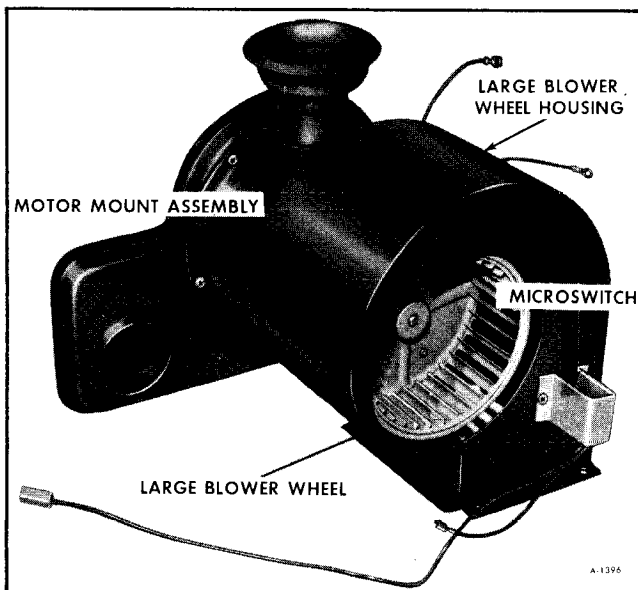

Figure 30—Blower Assembly - Removed
5. Remove blower assembly (figure 30).